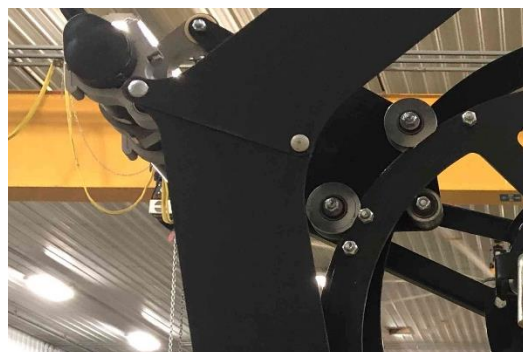

Figure 207
1. The cam reel on the headers have two separate cams that control the pitch of the teeth. The cam reel has the same bats but the spiders and the cams are different then the standard reel. The bats are controlled by the set of rollers on each side of the cam. Figure 207